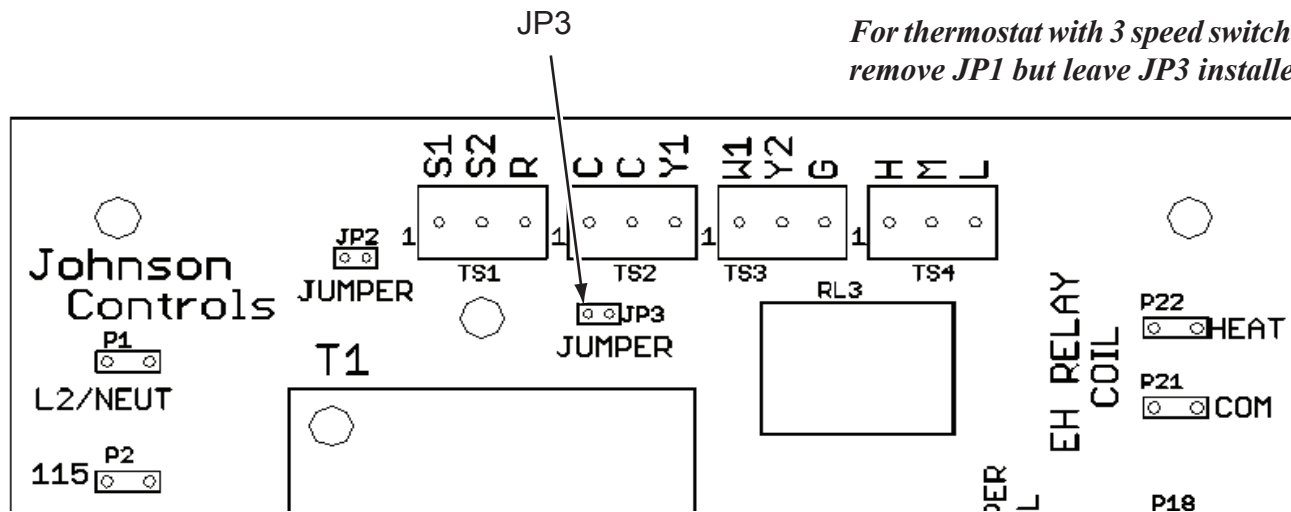

FIG. 5 - FAN COIL RELAY BOARD (CURRENT)
- Verify plug jumper JP3 (Figure 5) is installed or wire (Figure 6) is installed between W2 and R.